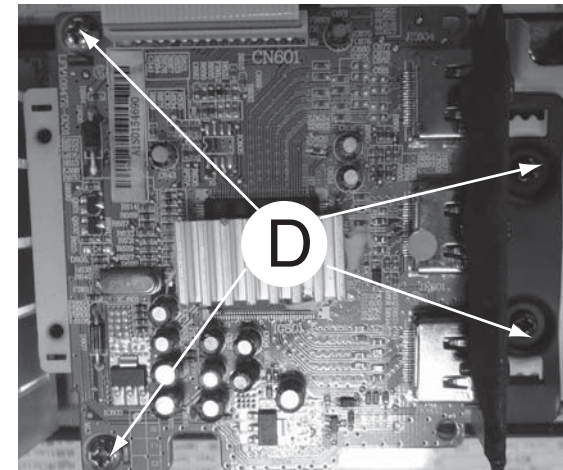

Figure 4
1) Loosen 4 screws "D" to remove the HDMI Repeat Board as shown in figure 4.